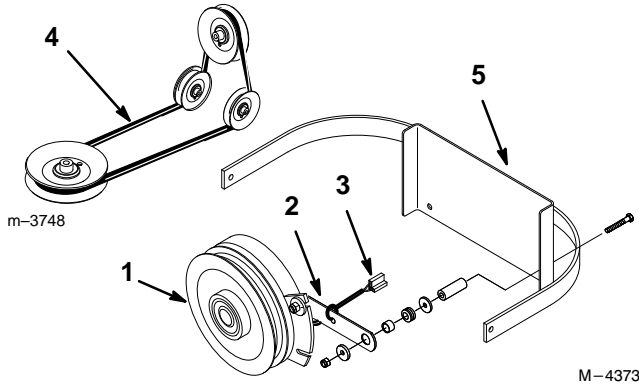

Figure 46
2. Remove the clutch retaining strap from machine frame and unplug clutch terminal from wire harness (Fig. 46).
7. Install clutch retaining strap and plug clutch terminal into main wire harness (Fig. 46).